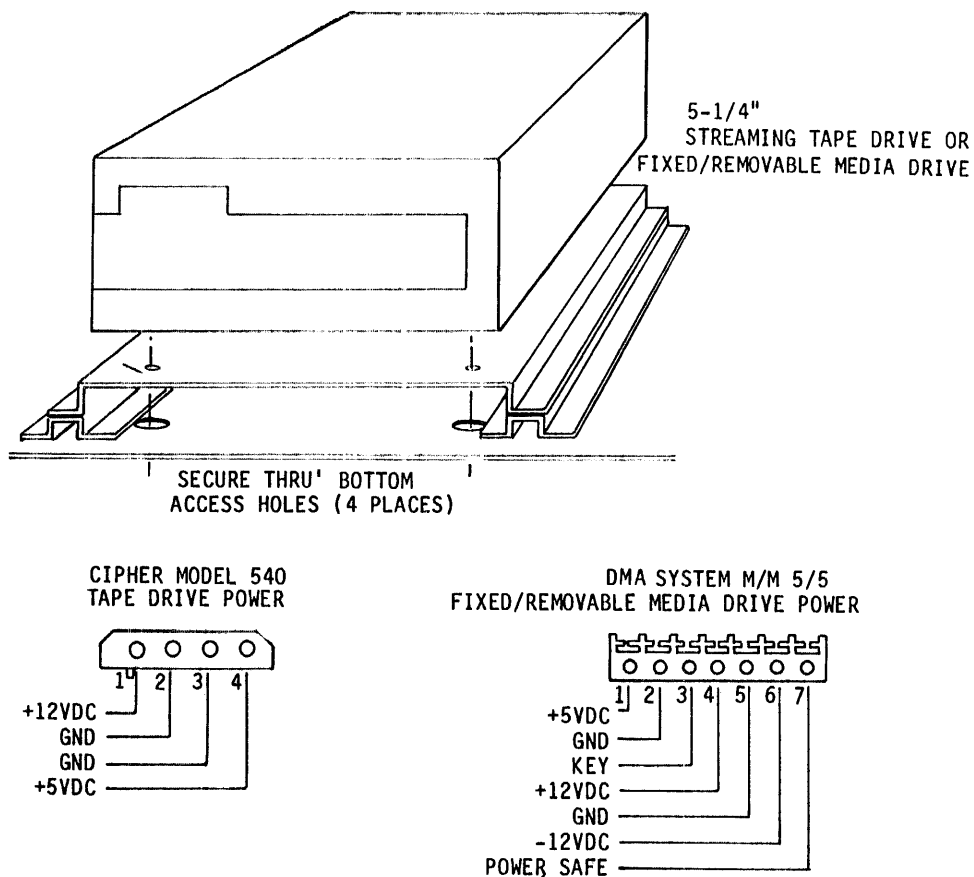

FIGURE 2-5: 5-1/4" REMOVABLE MEDIA DRIVE MOUNTING
The 5-1/4" removable media device is generally a cartridge tape or fixed/removable disk drive. With Figure 2-5 as a guide, install the 5-1/4" removable media device using the following procedure.
3. Check that power supply voltages meet manufacturer's specifications before applying power to the drive. Figure 2-5 defines the DC power connectors for the 5-1/4" cartridge tape and for the fixed/removable media drives.